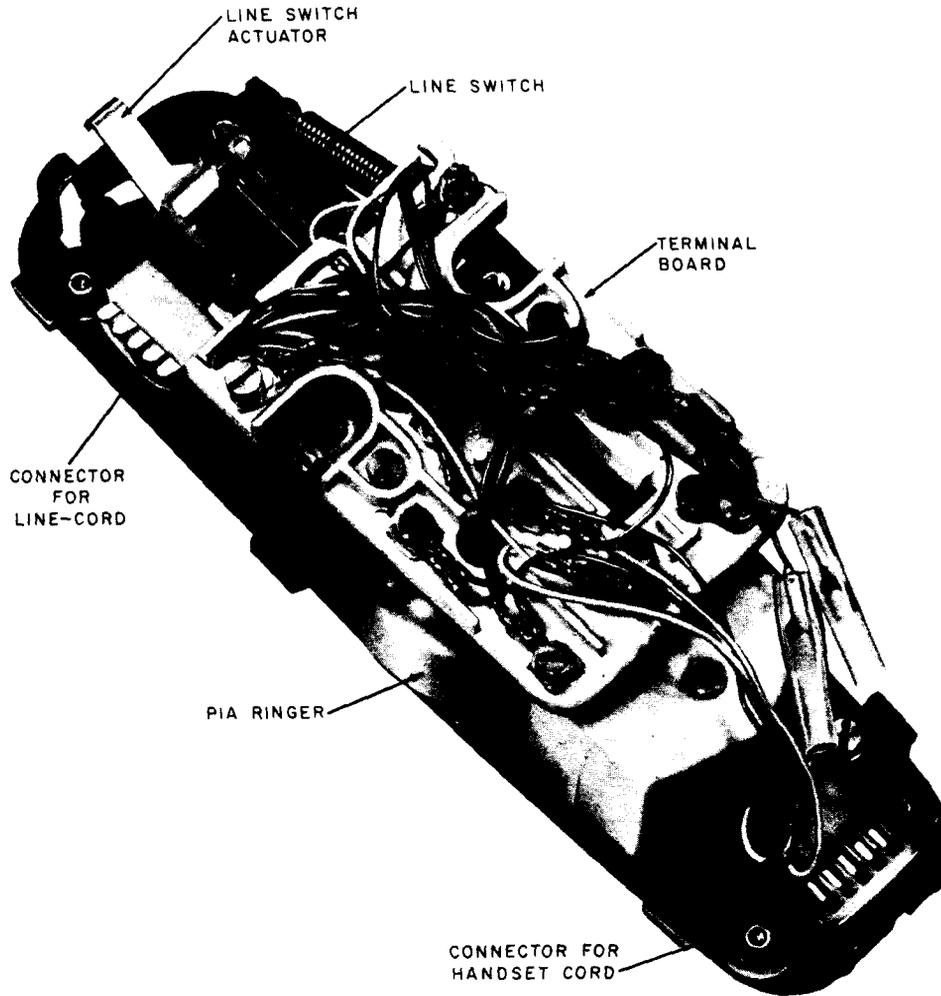

Fig. 3 — AD1 Telephone Base — Housing Removed
2.11 The AD1 telephone base (Fig. 3) consists of a line switch, P1A ringer, and terminal board mounted to a metal baseplate and enclosed in a plastic housing. Connectors are provided to accept plug-ended line cords and handset cords. The line cord is included.